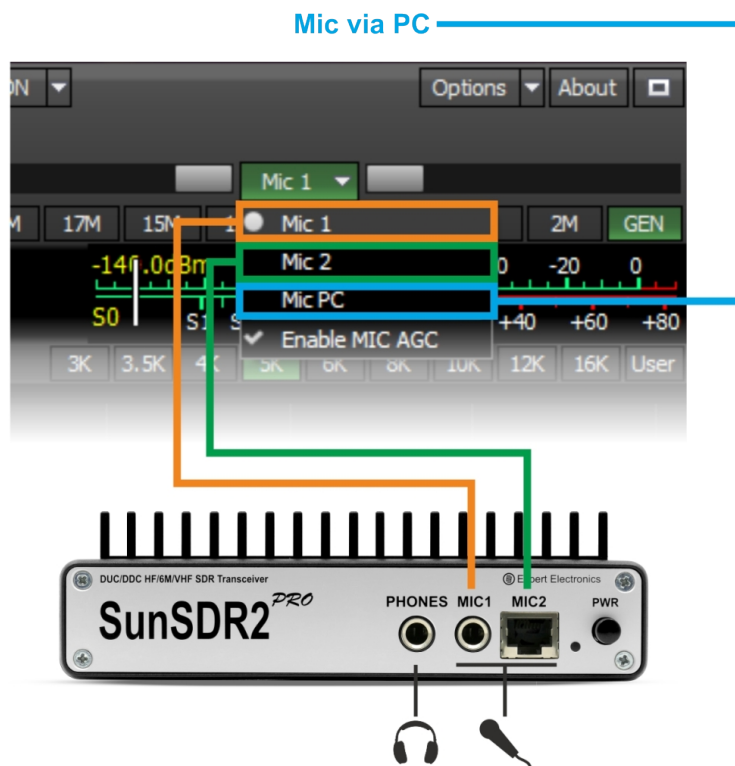

Figure 3.3 –Controlling the microphone inputs of the transceiver
6. In the main ExpertSDR2 software dialogue window specify the connector to which is connected the microphone (see figure 3.3);